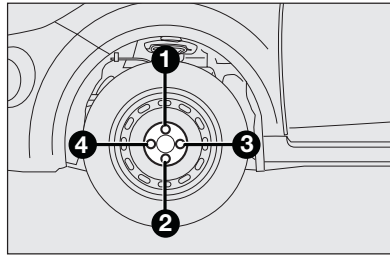

fig. 8
- fully tighten the bolts, passing alternatively from a bolt to the opposite one, following the order indicated in **fig. 8**.
- Using the wrench provided, fully tighten the bolts in the sequence shown in **fig. 8**.